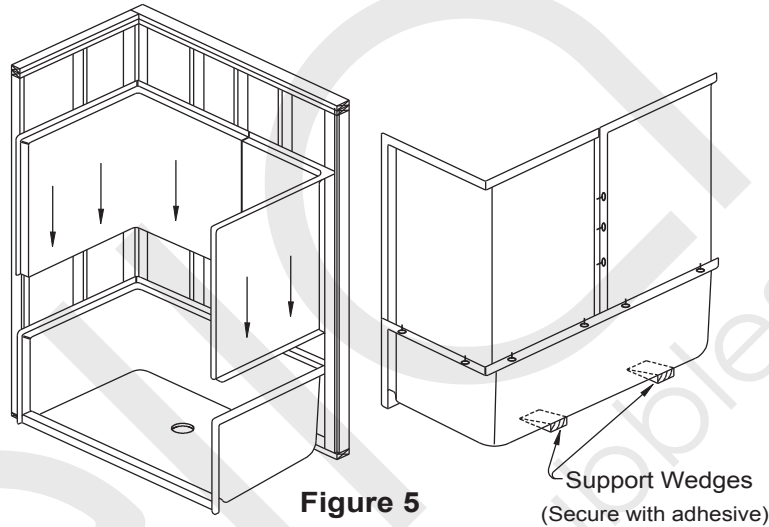

Figure 5
1. Install drain and/or overflow assembly on unit following drain manufacturers instructions. Place support wedges under the back edge and secure. Place the base unit in the install location. Level the unit. A minimum of two shims should be used for proper support. (See Figure 5). Re-check level and attach base to framing studs with 6D galvanized screws.
3. Place the walls on the top of the base aligning the holes with the pins. For three and four piece units, install the left wall first. Repeating the same for the right wall. Press all seams together to assure a tight fit. Wipe away any excess caulking. See Figure 5